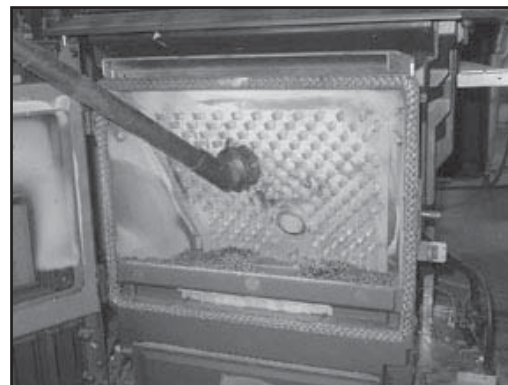

Figure 17.3
- b. Vacuum the ash from the heat exchanger with an upholstery brush to remove the majority of the ash. Be sure to vacuum the back of the baffle also. Inspect the drop tube and remove any residue build-up in the drop tube. **Figure 17.3**